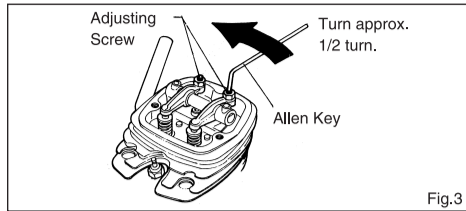

Fig.3
2. Turn adjusting-screw approx. 1/2 turn counter-clockwise to open gap, using appropriate tool -i.e. Allen hex key.(Fig.3.)